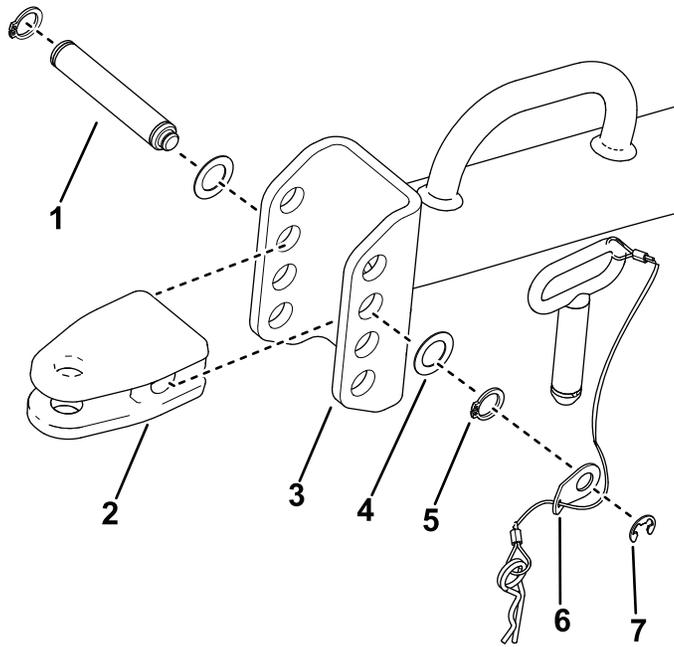

Figure 41
1. Remove the components shown above (Figure 41).
3. Secure the drawbar clevis pin to the trailer tongue with the components shown in Figure 41.